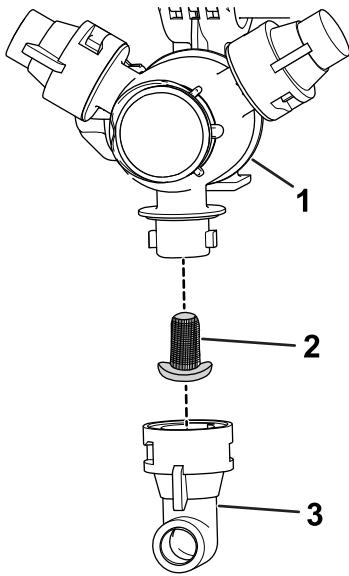

Figure 53
2. Remove the nozzle from the spray turret (Figure 53).
3. Remove the nozzle filter (Figure 53).
5. Install the nozzle filter (Figure 53).
6. Install the nozzle onto the spray turret (Figure 53).